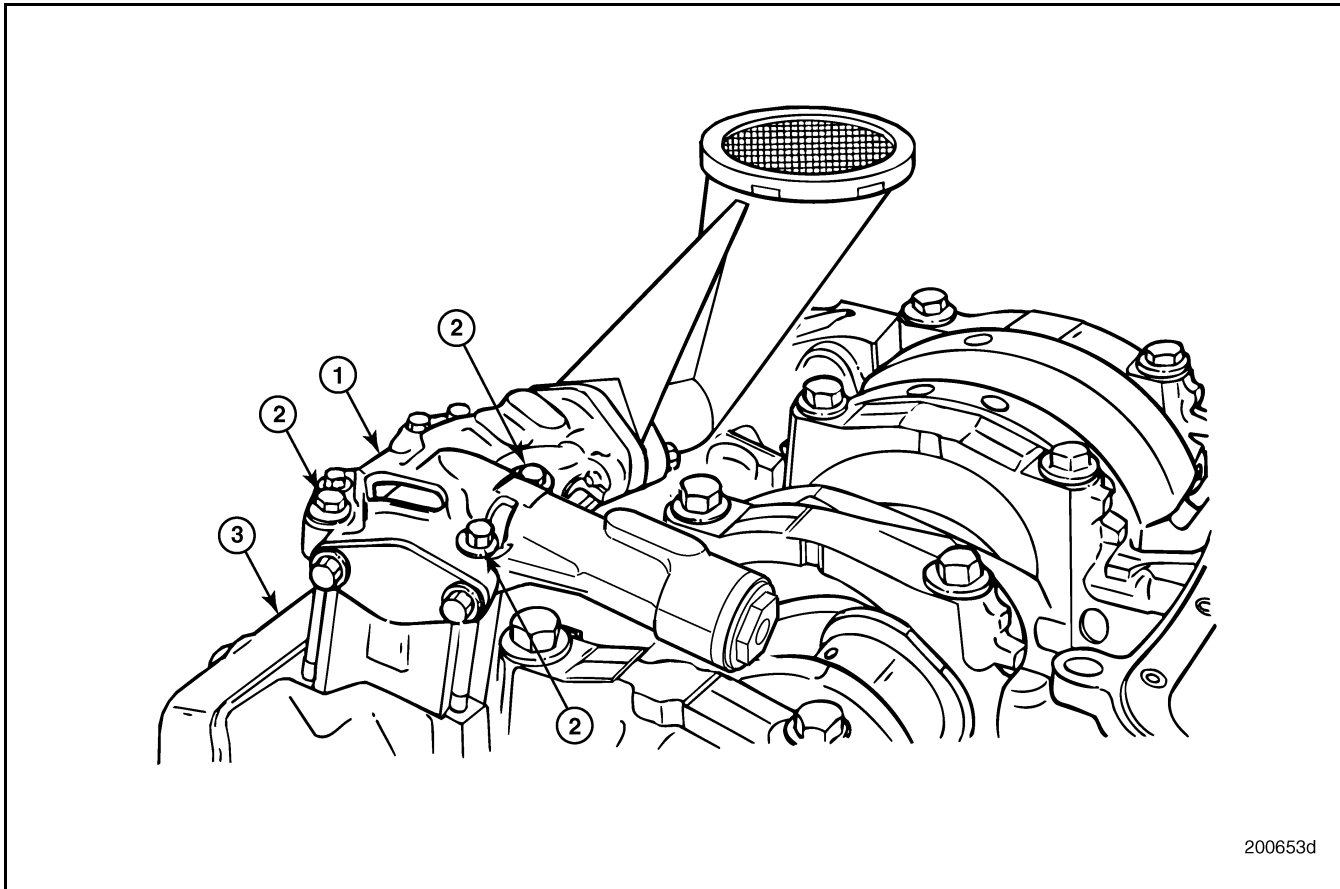

Figure 358 — Oil Pump Installation
1. Place the oil pump in position on the cylinder block. Refer to Figure 358.